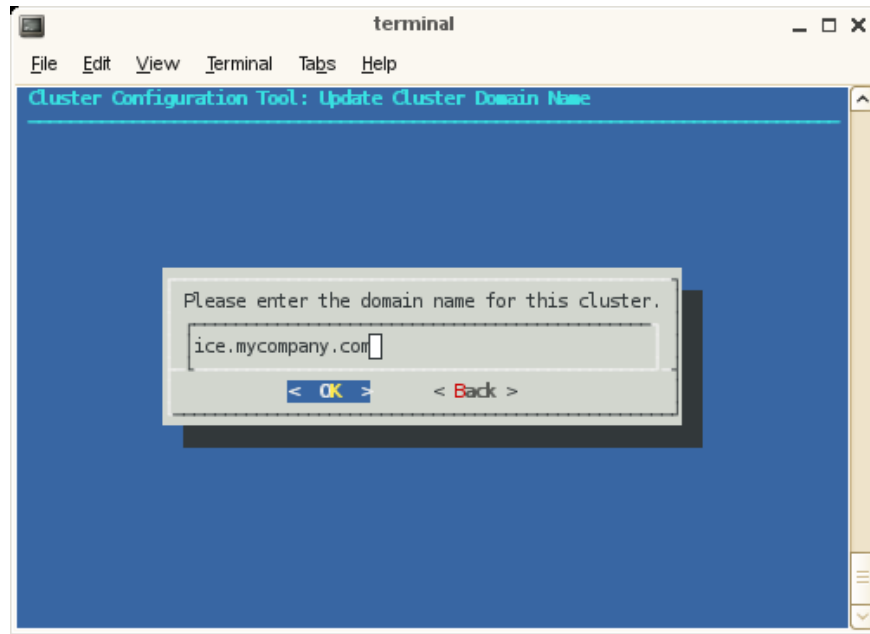

Figure 2-20 Update Cluster Domain Name Screen
31. Enter the domain name for your Altix ICE system, as shown in Figure 2-20 on page 53. Click **OK** to continue (this will be a subdomain to your house network, by default).